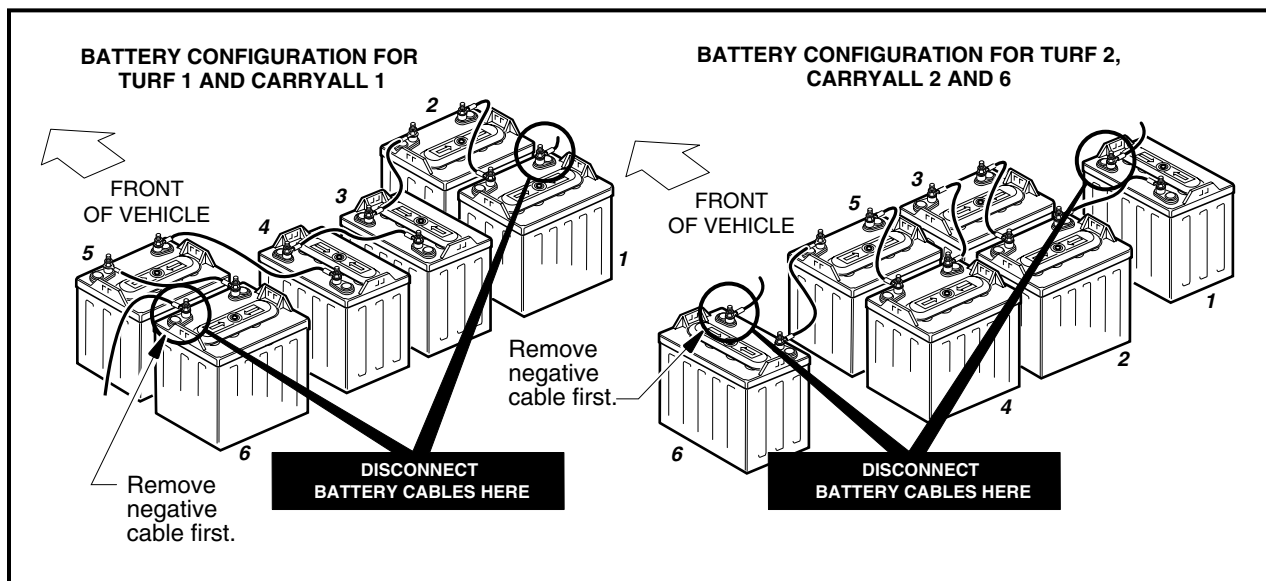

Figure 1-2 PowerDrive Battery Configuration
- To avoid unintentionally starting the vehicle, disconnect the batteries as shown (Figure 1-2, Page 1-3).
- **To avoid unintentionally starting the vehicle, disconnect the batteries as shown. See Figure 1-2, Section 1, Page 1-3.**